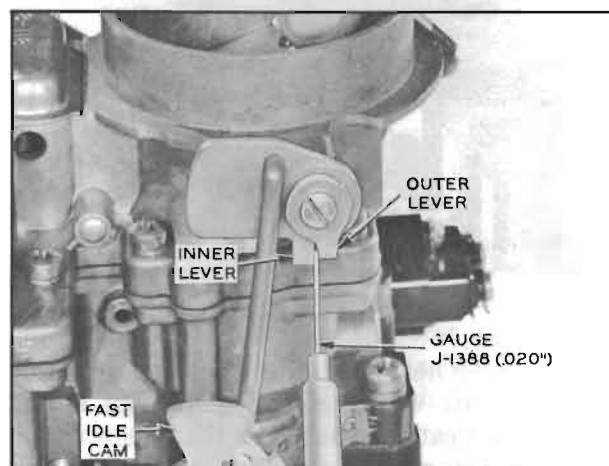

Figure 3-26—Checking Fast Idle Cam Clearance
1. Remove air cleaner. Open throttle to clear fast idle cam and close choke valve. With choke valve held fully closed and fast idle cam held against stop on casting, check clearance between lug on outer choke shaft lever and stop on inner choke shaft lever using Gauge J-1388 or a .020" feeler gauge. See figure 3-26.